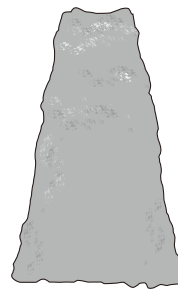

Fig. 10
**NOTE:** When shaping it is advisable to achieve a trapezoidal shape (Fig. 10). A trapezoidal cut corresponds to the natural growth of plants and results in optimal hedge growth, as it will expose more light to the lower end of the hedge.